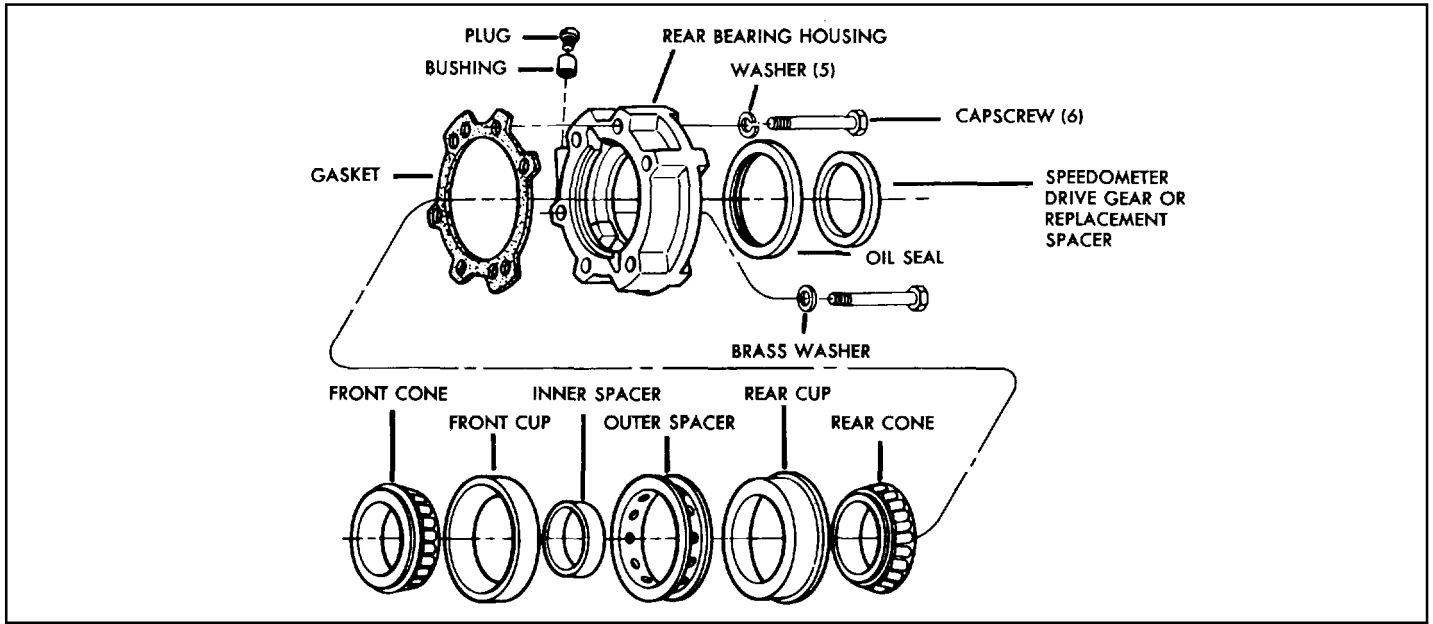

Fig. 5
1.8 Removal of Rear Bearing Assembly (Fig. 5)